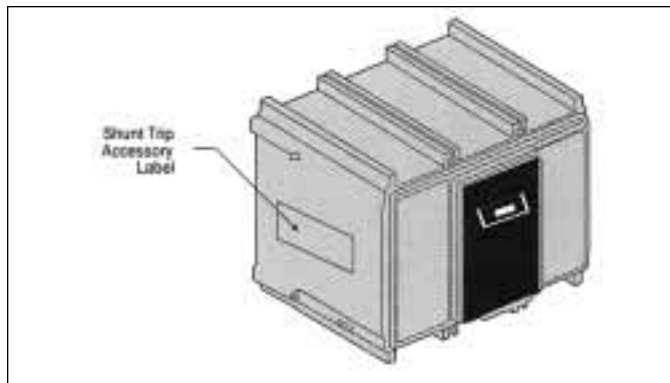

Figure 6. Location of Shunt Trip Accessory Label
11. Apply shunt trip accessory label to side of the breaker cover (Figure 6). Mark the label that is on the opposite side of the cover to indicate that the shunt trip has been installed.
7. Mount the Bell Alarm or Display Module Relay to the trip unit bracket as shown in Figure 6, Page 4, with 2 screws and lockwashers that are provided.